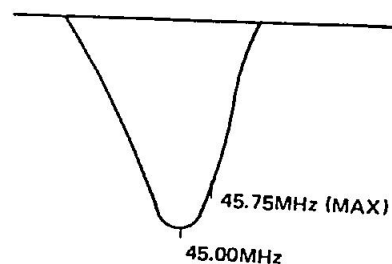

Figure 8. I-F (45.75MHz) Response Curve.
2. Adjust L104 for maximum amplitude at 45.75MHz. (See Fig. 8.)